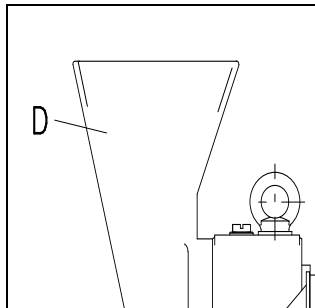

Fig.9
- * Feed material slowly into the filling funnel **D** Fig. 9